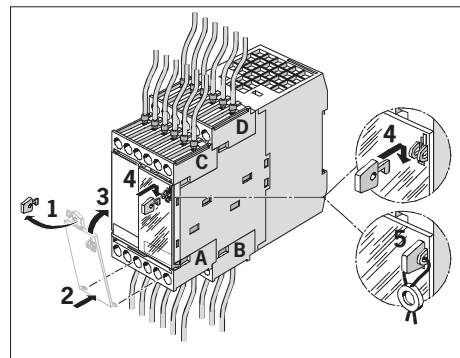

Fig. 3: Fitting and sealing - cover
- It is essential to fit the enclosed cover in order to protect against electrostatic interference during operation (see Fig. 3).
- Fit cap and lock with wire and seal (see Fig. 3).